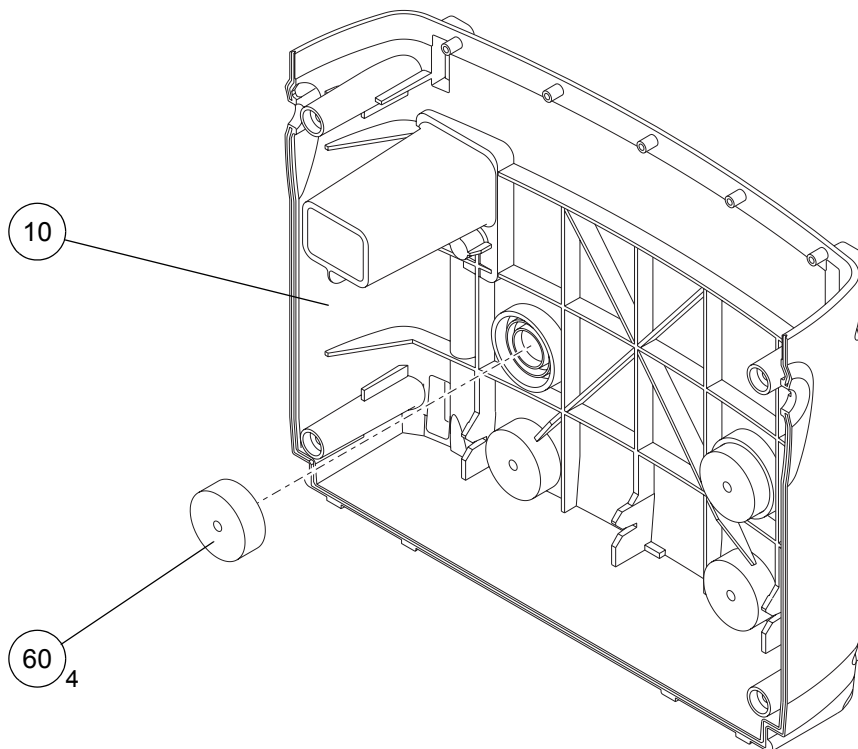

Figure 33 - Replacing the Rear Case - Internal View
27.4 Stick the four compressor support foams (Fig 33, Item 60) onto the inside of the rear case assembly.